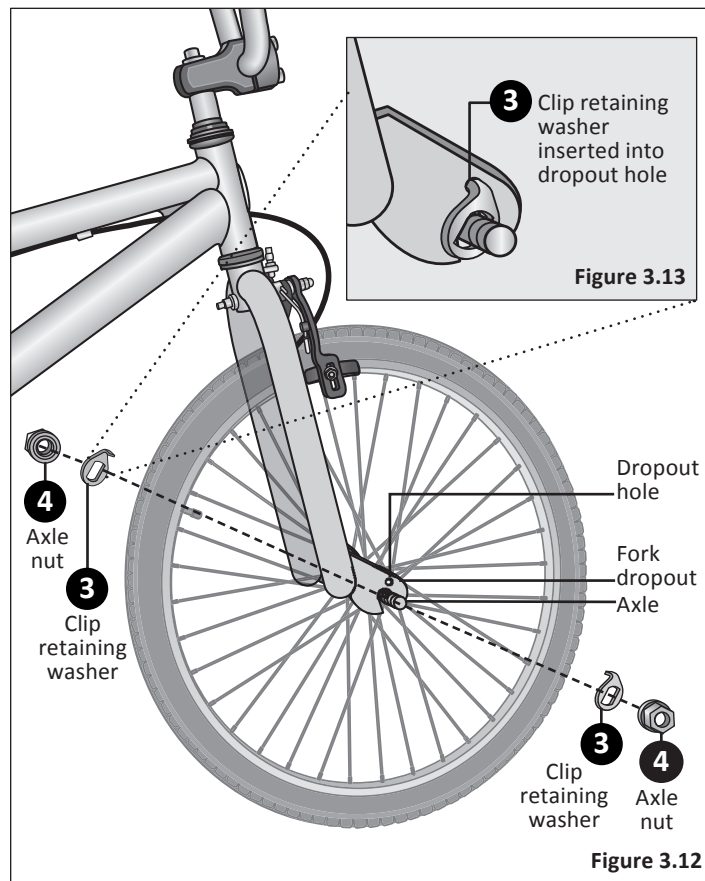

Figure 3.12
- 1 Loosen the axle nuts on the front wheel. If there is a washer inside of the axle nut, it belongs outside of the fork dropouts. **Figure 3.12**